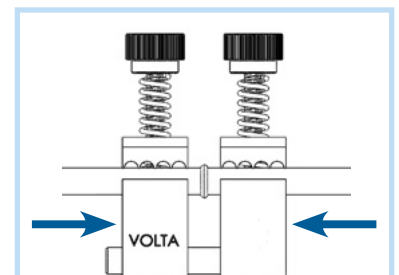

Fig. 9
8. Close pliers quickly but gently and tighten the locking nut (7) (Fig. 9).